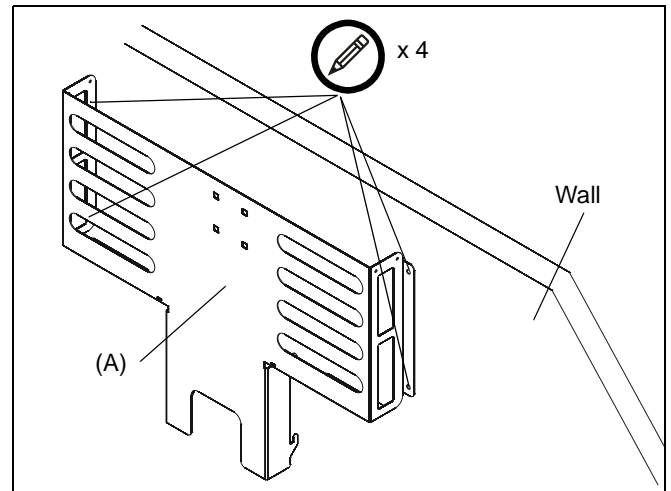

Figure 3
1. Locate and mark the four mounting holes on the drywall using CPU adapter (A) as a template. (See Figure 3)